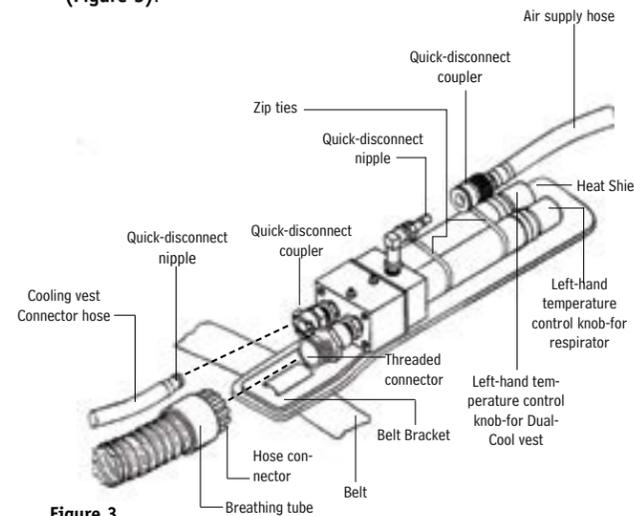

Figure 3
2. Use plastic zip ties (2 included) to secure the climate control to the heat shield. (**Figure 3**)
1. Screw the hose connector that is on the end of the breathing tube to threaded connector on Dual-Cool. Lace the belt through the slots in the belt bracket (**Figure 3**).
4. Snap the quick-disconnect nipple found on the end of the cooling vest connector hose into the quick-disconnect coupler on the Dual-Cool (**Figure 3**).
6. With the approved Bullard air supply hose connected to the breathing air source, and with air flowing into the hose, connect the quick-disconnect coupler on the air supply hose to the quick-disconnect nipple on the Dual-Cool (**Figure 3**).
1. To obtain cooler air, turn the air temperature control knobs counterclockwise (**Figure 3**). Maximum cooling is obtained when knobs are open completely and when there is maximum airflow out of the Dual-Cool tube's exhaust ports. To obtain air that is closer to ambient temperature, turn air temperature control knobs clockwise. If knobs are closed completely, your respirator will receive air that is essentially at ambient temperature.